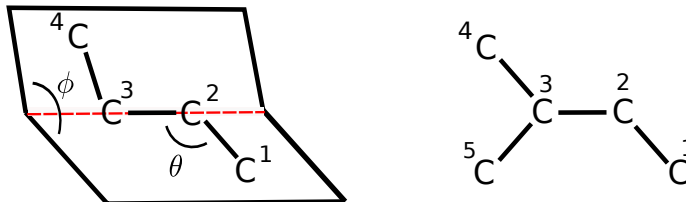

Figure 1: Illustration of the angle and torsion angle.
where k_{θ} is the force amplitude, and the zero-force angle θ_0 . See Fig. 1 for the angle definition.
Here c_n are the six Ryckaert-Belleman coefficients, and ϕ is the torsion angle, see Fig. 1. Two illustrative examples are when $c_n = 0$ except for $n = 1$:
1. If $c_1 > 0$ then the minimum energy torsion angle is $\phi = 0$; this is illustrated in the right-hand figure in Fig. 1 with torsion angle defined by the 1-2-3-5 bonds. Useful for closed molecular ring structures.
2. If $c_1 < 0$ then the minimum torsion angle is $\phi = \pi$; this is illustrated in the right-hand figure in Fig. 1 with torsion defined by the 1-2-3-4 bonds. Useful for branched molecular structures.